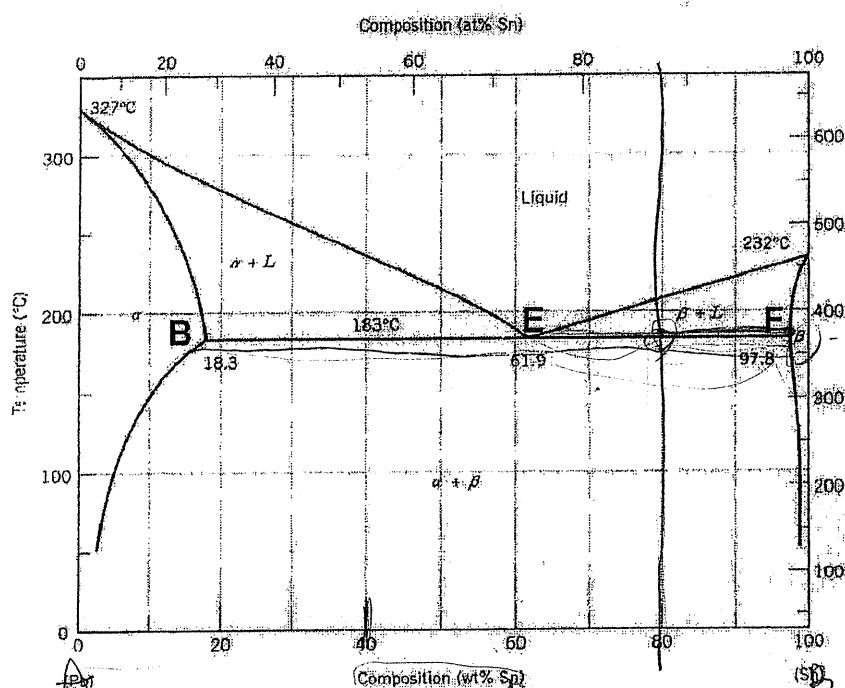

Fig.3a
1. Draw a Fe-Fe3C equilibrium phase diagram of ferrous alloys. Indicate (1) all phases, (2) temperatures, (3) wt% of carbon at relevant points or lines. (20%)
3. Figure 3a shows a Pb-Sn phase diagram. (25%)
4. For *eutectic* alloys consisting of two hypothetical metal elements A and B having a similar phase diagram as fig.3a, there exist an  $\alpha$  phase riched in metal A and a  $\beta$  phase riched in B. From the mass fractions of both phases for two different alloys 1 and 2 shown in the table below, (which are at the same temperature), determine the composition of the phase boundary (or solubility limit) for both  $\alpha$  and  $\beta$  phases at this temperature. (10%)